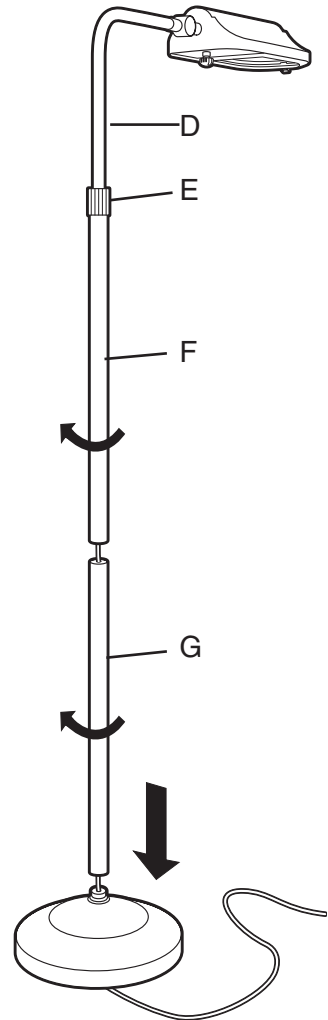

Fig. 1
1. Set lamp base on the floor and insert the lower lamp shaft (G) onto the base and screw clockwise to tighten. (Fig.1)
2. Pull the slack of the electrical cord through the lamp base. (I)
3. Loosen the height adjusting collar (E) to free lamp arm. (D)
4. With one hand holding the lamp arm (D), screw the upper shaft (F) onto the lower shaft. (G) (See Assembly Detail Below)
6. To lift lamp head, loosen swivel knob (C), adjust head to desired angle. Tighten swivel knob.